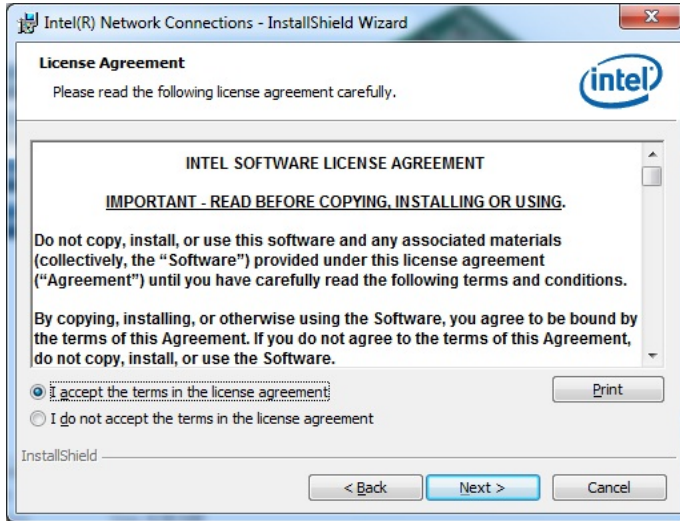

Figure 6-10: LAN Driver License Agreement
Step 9: The **License Agreement** in **Figure 6-10** appears.